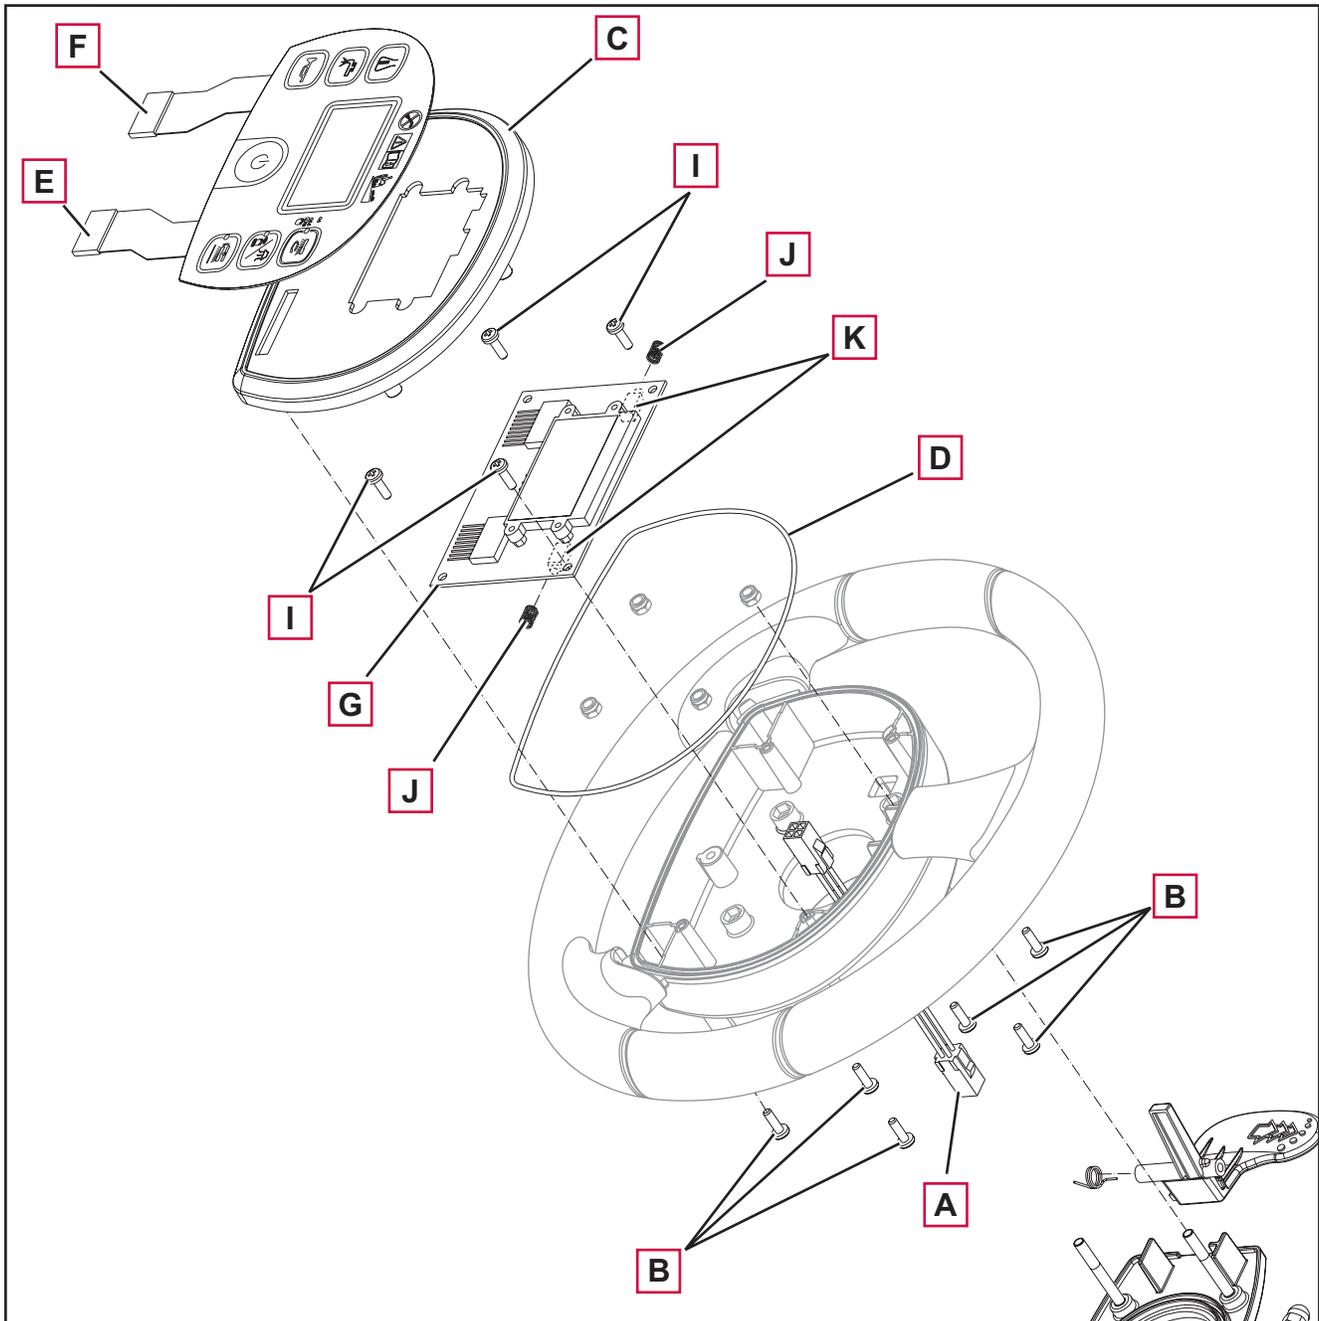

Figure 15
3. Remove the steering wheel mounting screws and disconnect the wiring harness connection (A, Figure 15).
4. At the workbench, remove the 6 screws (B), the cover (C) and recover the gasket (D).
5. Disconnect the flat connections (E) and (F) from the display electronic board (EB3).
6. Remove the screws (I), remove the display electronic board (G) and recover the springs (J) of the microswitches (K).